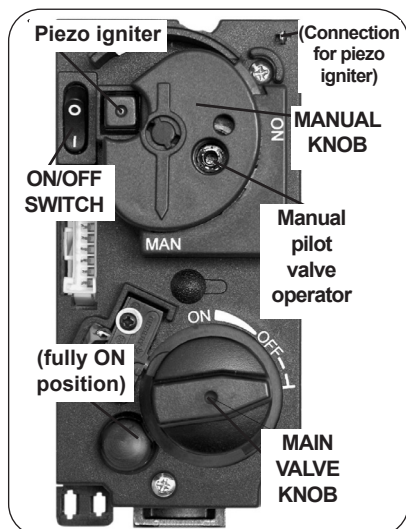

Fig. 24-1 Combination control
2. Locate the valve on the unit. Turn the control knob clockwise  to **OFF**, the manual knob clockwise  to **MAN**, and place the ON/OFF switch in the **OFF (O)** position (Fig. 24-1).
5. Push the manual pilot valve operator **firmly and fully** in and hold. Hold a long-stem match/ long-necked butane lighter near the thermocouple to light the pilot. Continue to hold the knob in for about one (1) minute after the pilot is lit. Release the manual pilot valve operator. The pilot will remain lit. See Fig. 24-1 and 24-2. If it goes out, repeat steps 2-5.
1. Ensure the pilot is burning. Turn the manual knob counterclockwise  to **ON**. Turn the control knob counterclockwise  to **ON**. See Fig. 24-1. The valve will open and the burner will light.
To shut down the main burner (pilot will remain lit), turn the control knob clockwise  to the fully OFF position (see Fig. 24-1).
To shut down the burner and pilot (total shutdown), turn the control knob clockwise  to the fully OFF position, and place the ON/OFF switch in the **OFF (O)** position (see Fig. 24-1).